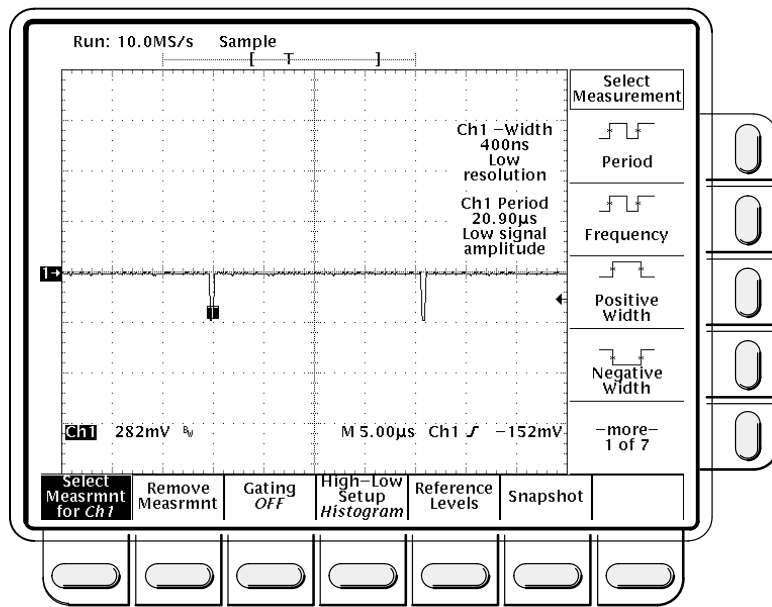

Figure 1-41: Sync Duty Cycle Test: Critically Adjusted Pulse
- Turn the pulse generator PERIOD variable control to adjust the period until the oscilloscope **CH1 Period** measurement reads **21.000 μ s $\pm$ 25/+50 ns** (See Figure 1-41). Read note shown below.